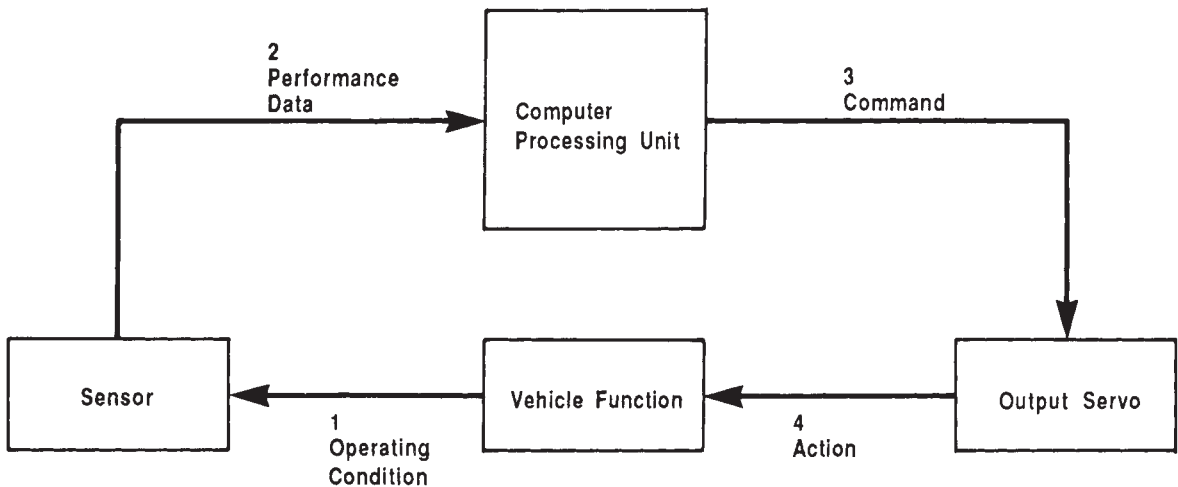

Figure 5-22 In closed-loop operation, a computer constantly monitors and adjusts a process to maintain a stable operating condition.
- Computer (PCM; **Figure 5-22**).